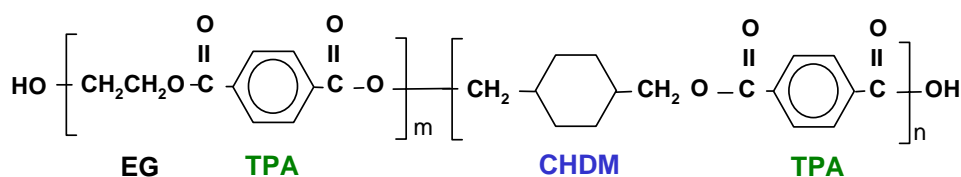

Fig. 1 - SKYGREEN JN200
SKYGREEN JN200 is an amorphous copolyester produced by the reaction of terephthalic acid (TPA) with ethylene glycol (EG) in which a certain amount of the ethylene glycol is replaced with cyclohexane dimethanol (CHDM) – see Fig 1. The addition of CHDM prevents crystallisation, leading to improved processability combined with outstanding toughness, clarity and chemical resistance.